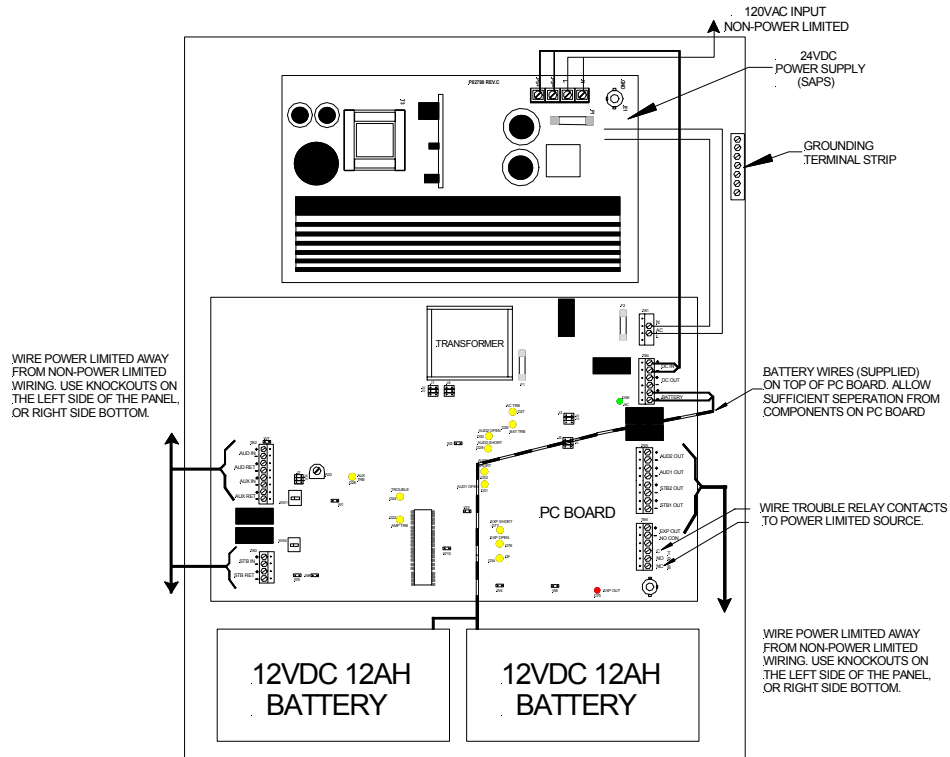

Figure 3-5
4. Install field wiring in conduit when required, following the most current National Electrical Code (NFPA-70) and local codes for the type of system being installed. Make all necessary connections at any additional wiring or junction boxes. Separate power limited and non-power limited wires. Wiring shown in Figure 3-5 is recommended.